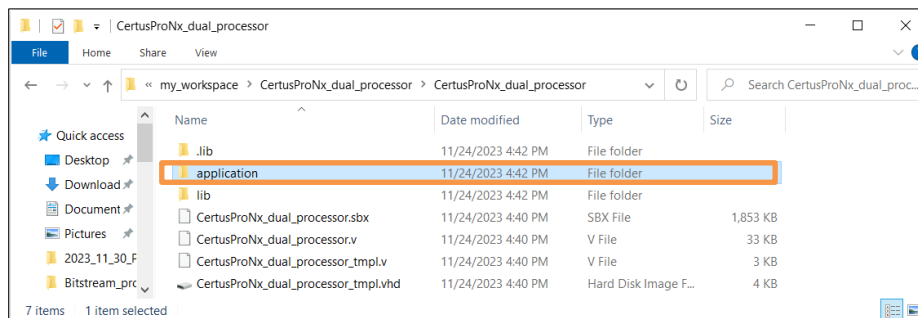

Figure 5.10. Application Folder in Source Project
- e. For some templates, there is an application folder inside the project directory (Figure 5.10). This folder is used for creating a C project in Propel SDK. Copy it from the source project.